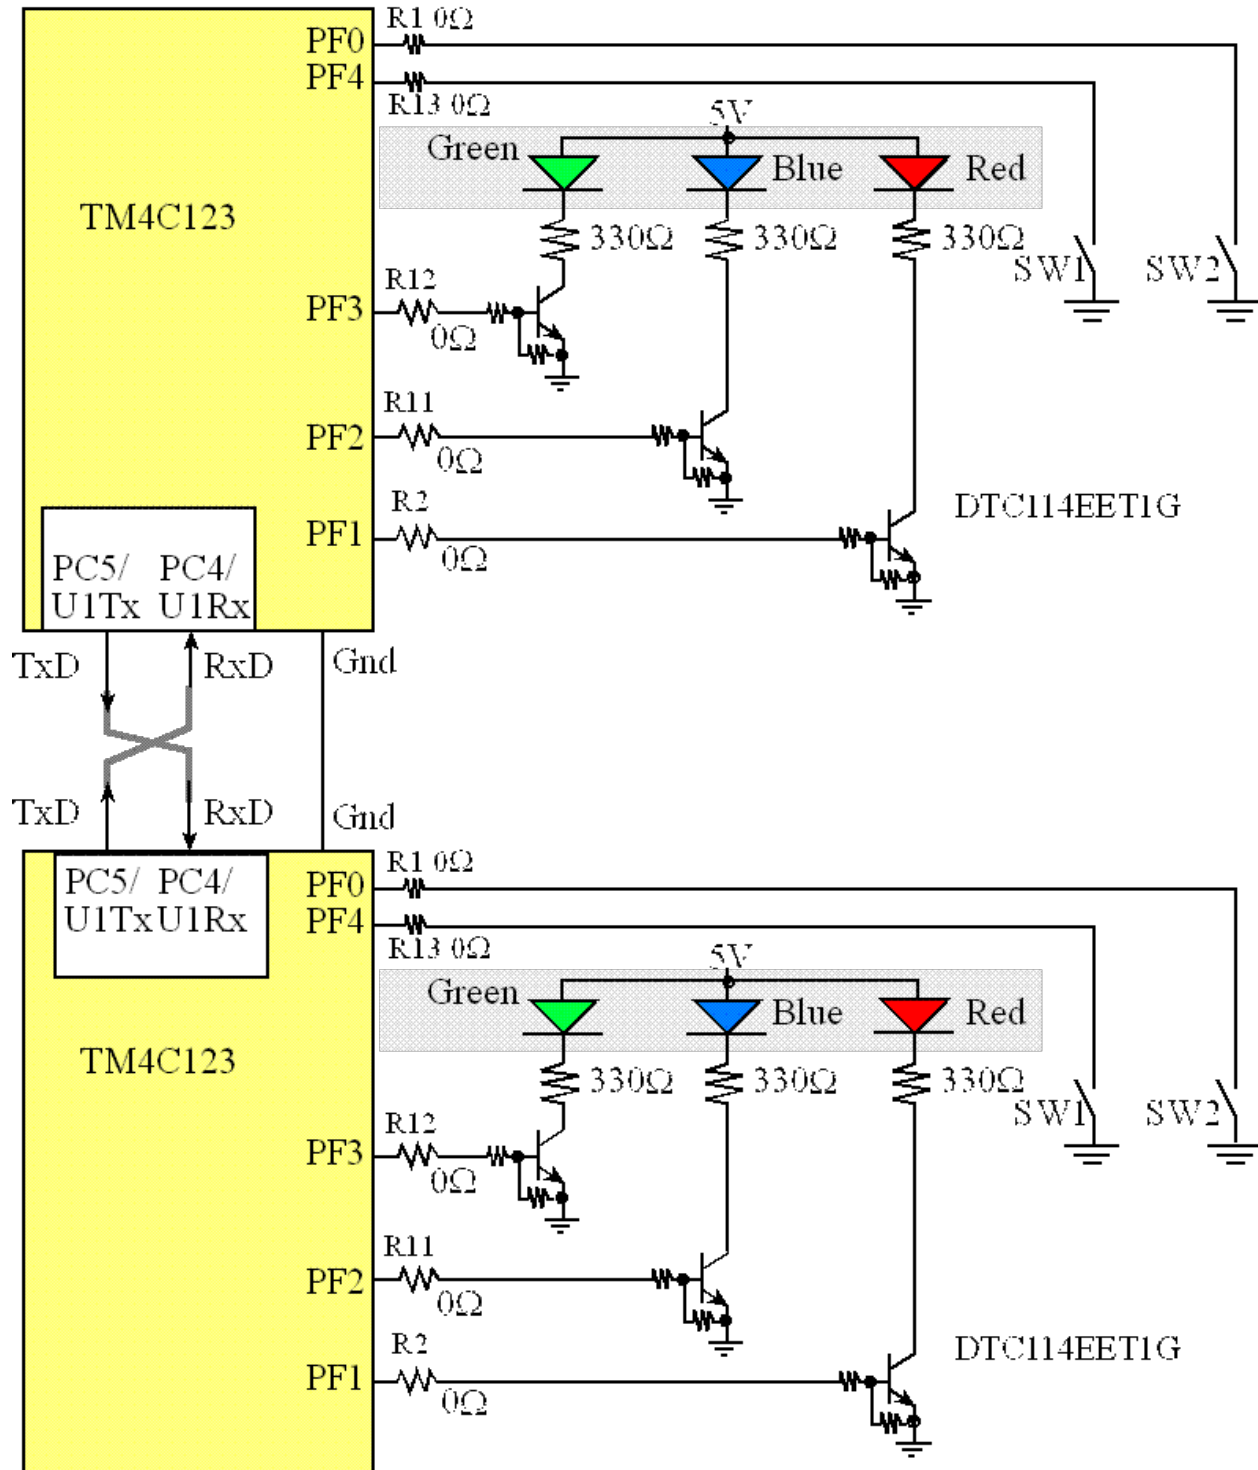

Figure 11.12. Distributed using two LaunchPads connected together by the UARTs.
**Solution:** The operator selects the message to send by pushing the SW1/PF4 switch. While selecting the message the LED displays the message to be sent. Each time the operator pushes the SW1/PF4 switch, the system will cycle through the 8 possible colors on the LED. When the operator pushes the SW2/PF0 the message is sent. The message content is encoded as an ASCII character '0' to '7' (0x30 to 0x37) and sent via the UART. The driver from Program 11.8 is used. When a UART frame is received, the data is encoded and the '0' to '7' data is displayed as the corresponding color on the LED. Figure 11.12 shows the hardware, which involves a 3-wire cable connecting the two LaunchPads.